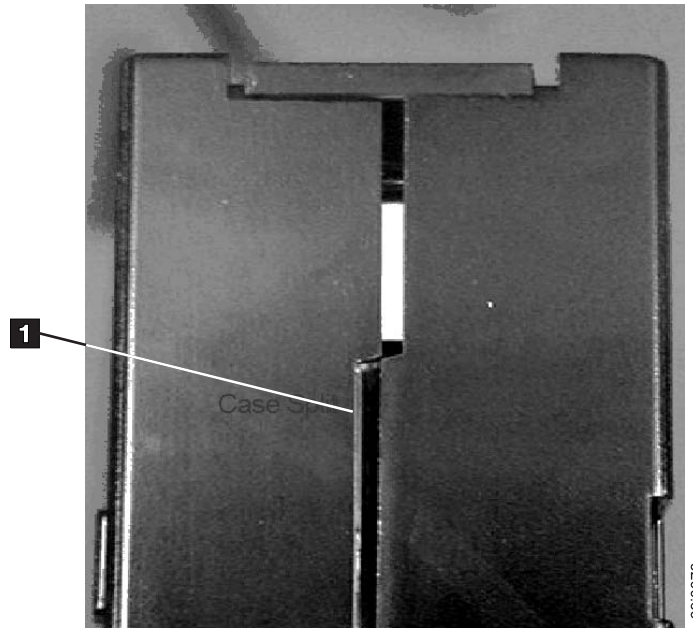
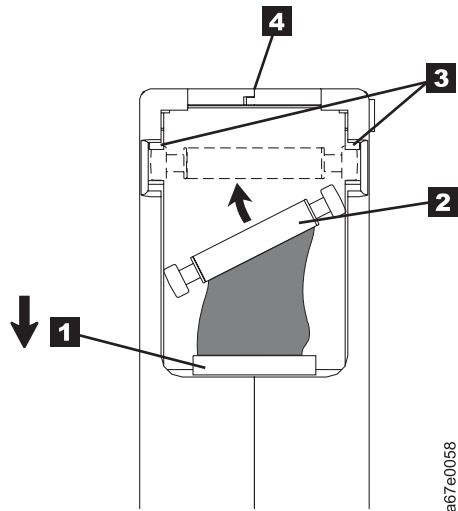

Figure 8-7. Checking for gaps in the seams of a cartridge
Figure 8-9. Placing the dislodged leader pin into the correct position. The cartridge door is open to show the leader pin.
- Inspect the rear of the cartridge (the part that loads first into the tape load compartment) and ensure that there are no gaps in the seam of the cartridge case (**1** in Figure 8-7 on page 8-10 and **4** in Figure 8-9 on page 8-12). If there are gaps in the seam (see Figure 8-7 on page 8-10), the leader pin may be dislodged. Go to “Repositioning or Reattaching a Leader Pin” on page 8-10.
1. Slide open the cartridge door (**1** in Figure 8-9 on page 8-12) and locate the leader pin (**2** in Figure 8-9 on page 8-12) You may need to shake the cartridge gently to roll the pin toward the door.
2. With plastic or blunt-end tweezers, grasp the leader pin and position it in the pin-retaining spring clips (**3** in Figure 8-9). **Be careful not to touch the tape.**